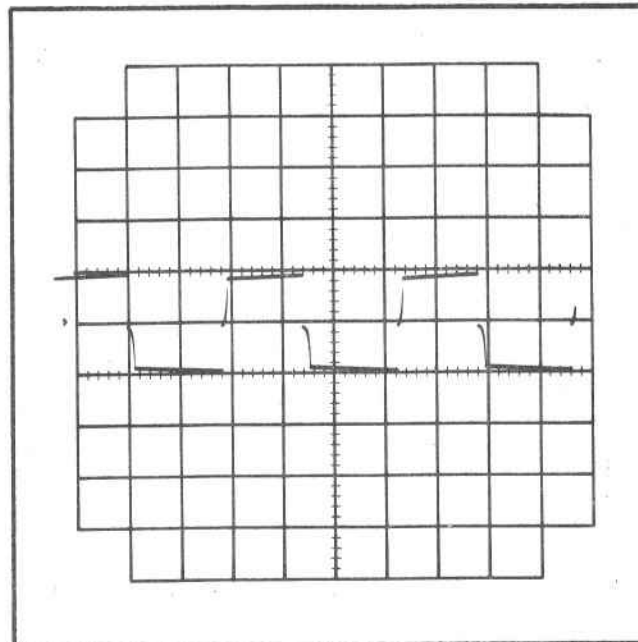

Fig. 6-38A. Typical waveform for Step 41c.
- c. Adjust LOWER BEAM POSITION to observe a waveform similar to that shown in Fig. 6-38A.